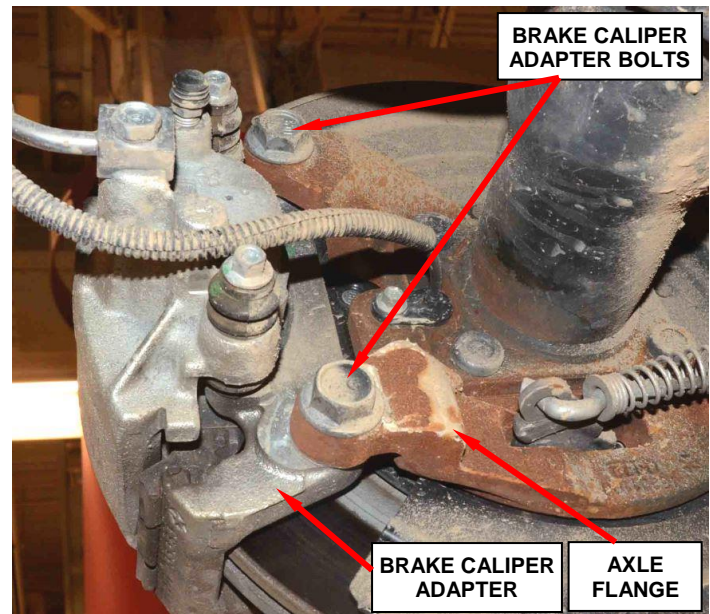

Figure 3 – Brake Caliper and Adapter
4. Remove and discard the left side rear caliper adapter bolts and position the left side brake caliper and adapter assembly aside (Figure 3).